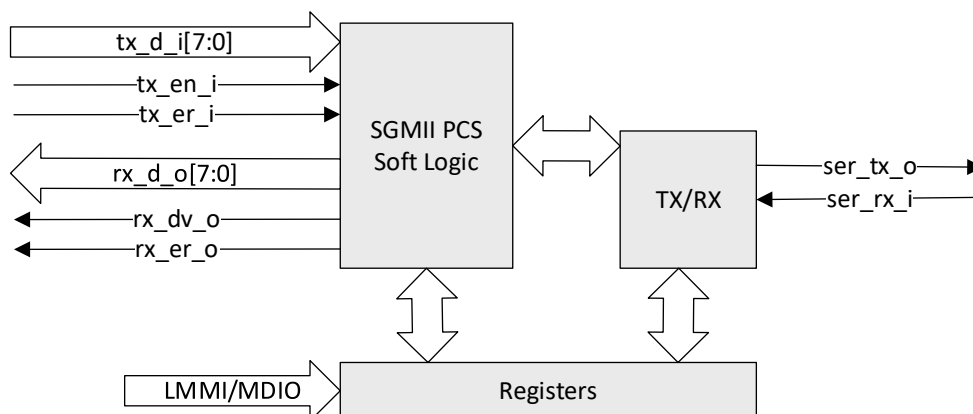

Figure 2.15. Top-Level Block Diagram for MII/GMII Option, 1 Gbps
The block diagram for TSMAC Easy Connect is similar to the MII/GMII Option block diagram shown in Figure 2.15. However, for the *TSMAC Easy Connect* mode all 8 bits of tx_d_i/rx_d_o are valid for all (G)MII data rates (1 Gbps, 10 Mbps, 100 Mbps).